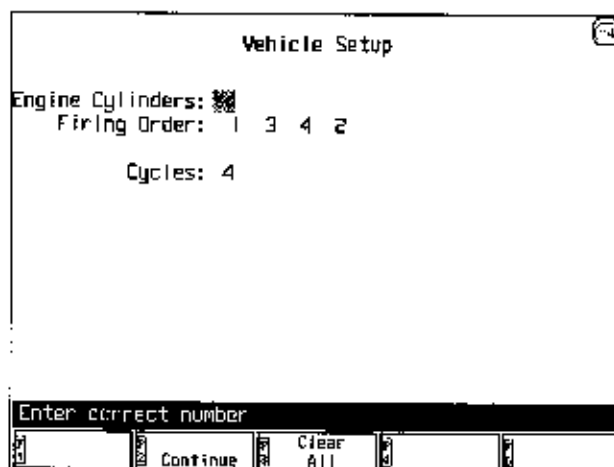

Figure 1-18
- g) After the vehicle has been selected, the "Vehicle Setup" screen is displayed (see Figure 1-18). After verifying the information is correct, press [F2] to proceed to the Lead Check screen (see Figure 1-19).